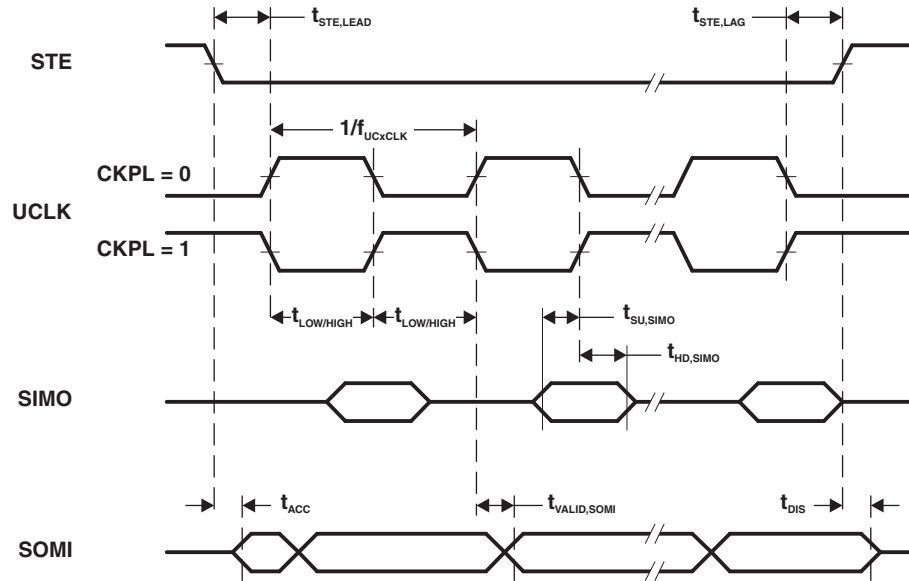
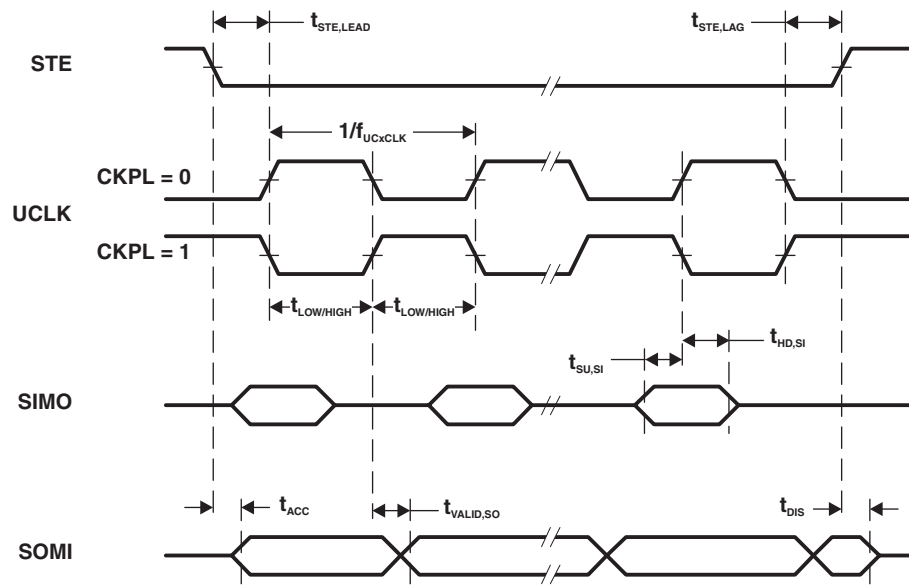

Figure 5-25. SPI Slave Mode, CKPH = 0
Figure 5-26. SPI Slave Mode, CKPH = 1
over recommended ranges of supply voltage and operating free-air temperature (unless otherwise noted)⁽¹⁾ (see Figure 5-25 and Figure 5-26)
- (1) $f_{UCXCLK} = 1/2t_{LO/Hi}$ with $t_{LO/Hi} \geq \max(t_{VALID,MO(Master)} + t_{SU,SI(USCI)}, t_{SU,MI(Master)} + t_{VALID,SO(USCI)})$. For the master parameters $t_{SU,MI(Master)}$ and $t_{VALID,MO(Master)}$, see the SPI parameters of the attached slave.
- (2) Specifies the time to drive the next valid data to the SOMI output after the output changing UCLK clock edge. See the timing diagrams in Figure 5-25 and Figure 5-26.
- (3) Specifies how long data on the SOMI output is valid after the output changing UCLK clock edge. See the timing diagrams in Figure 5-25 and Figure 5-26.